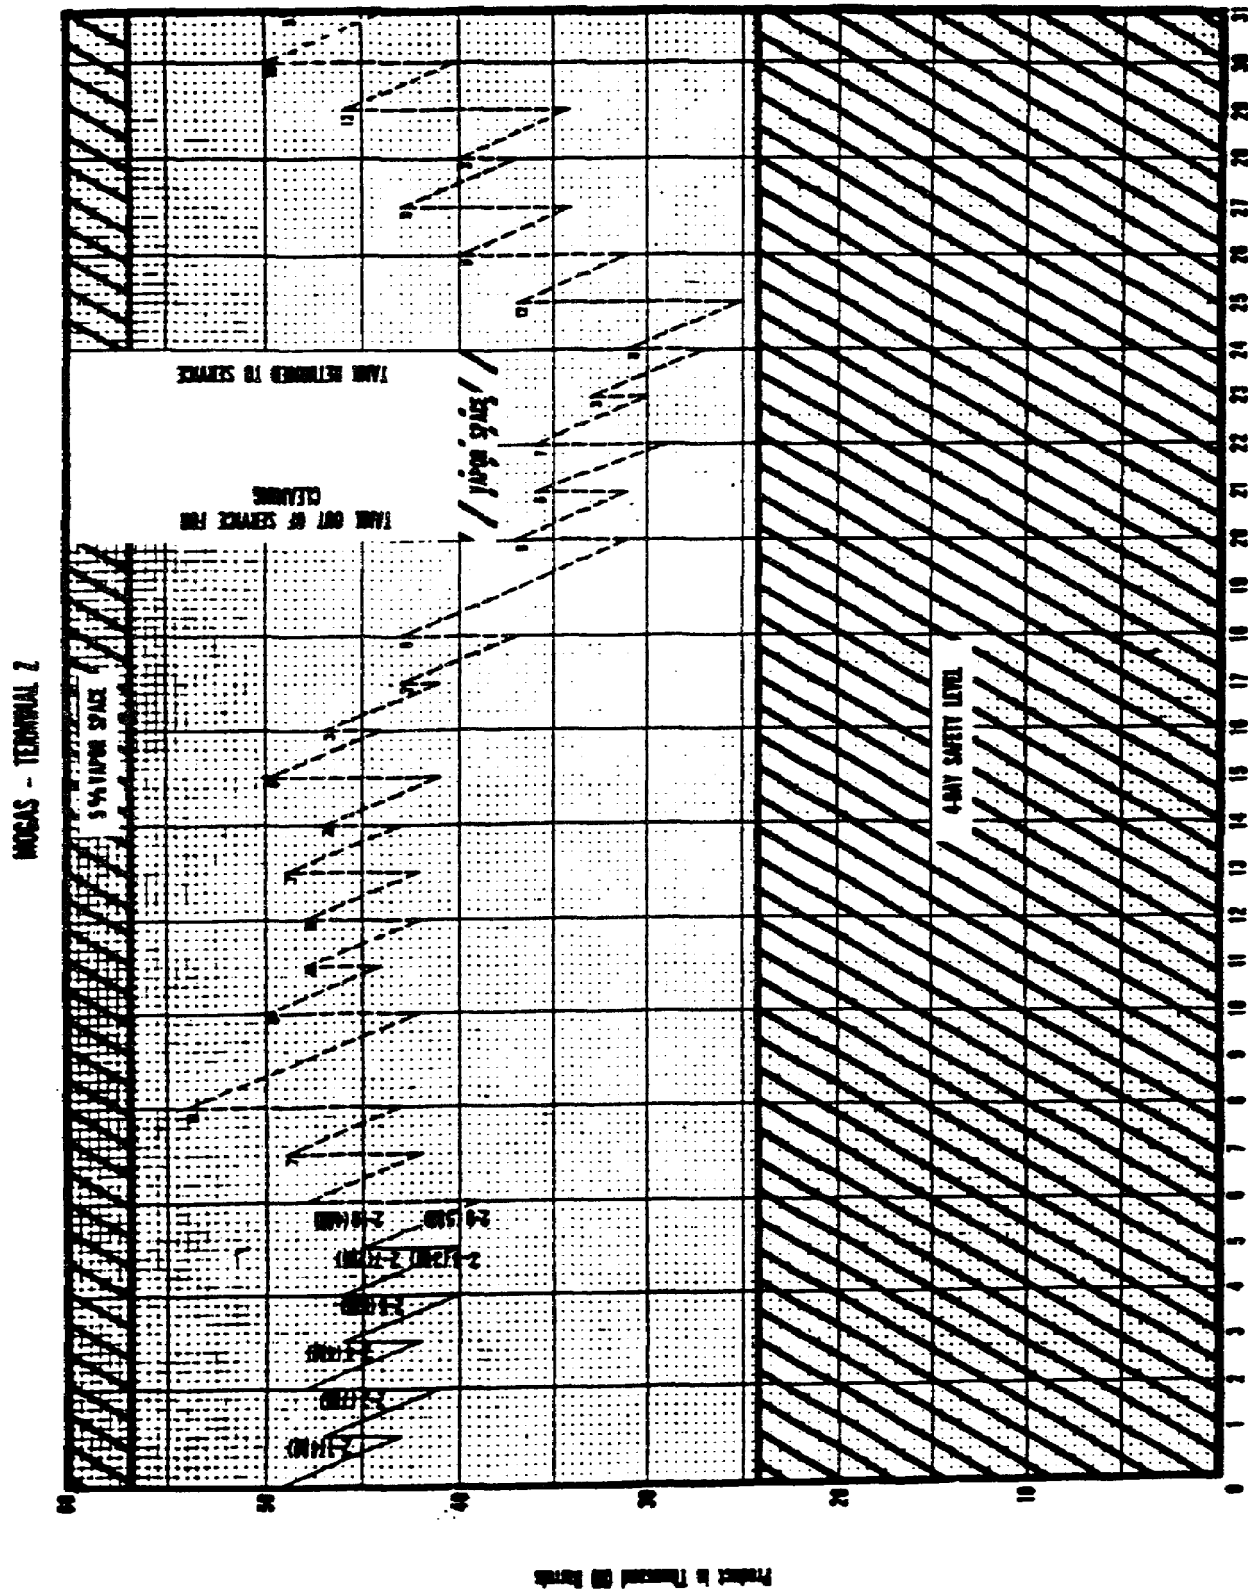

Figure 1. Consumption graph.
a. Purpose. A consumption graph (fig 1) provides you with required data needed to prepare your monthly and daily schedules. It also provides you with current quantities on hand and storage capacities. Consumption graphs should be maintained in the main distribution office for each product handled at each storage point, and each terminal should maintain similar graphs for large volume users. These graphs are available for visualizing present and future stocks and storage positions and for revealing trends in consumption. Sudden increases or decreases in consumption are apparent immediately and scheduling adjustments can be made.
b. Preparation of a Consumption Graph. A consumption graph must be set up to show the total barrels of any given product for each terminal or storage location. A separate graph should not be prepared for each tank. Figure 1 is a consumption graph for motor gasoline during the month of October.
(1) Storage capacity for the product in thousands of barrels (vertical axis) is plotted against time in monthly intervals (horizontal axis). Days are figured from 0001 of one day to 0001 of the next. Figure 1 reflects a total capacity of 60,000 barrels (60M bbls).
(Normal daily consumption from NOTE, figure 1)
(5) Projected tank cleaning and repairs (reduced storage capacity) must be provided for; the reduced storage capacity is subtracted from the total capacity. In figure 1, a 20,000 barrel tank is shown scheduled for cleaning on 20 July. The total capacity of Terminal Z is reduced by 20M bbls. Notice also that the vapor space has been refigured. It is now 5 percent of 40M bbls, or 2M bbls.
(6) Differences in stock on hand from day to day indicate the rate of consumption. The average rate of consumption based on past experience must be projected to plan for future issues. The system must be replenished via pipeline, based on this projected consumption rate.
c. Batch Number. Figure 1 shows entries by each receipt such as 2-1 (4M), 2-2 (7M) and 2-4 (4M). These represent a batch number and the quantity of fuel in that batch. The batch number also identifies the type of product. A batch number must be assigned at the time each batch is put into the line. When product is put into a terminal, it loses its number; when it is taken out and moved farther up the line, it is assigned a new batch number. A batch number is made up of two parts, the product code number, and the numerical value of that batch. An example of such a number is 2-4.
(1) Product code. The first part of the number identifies the product (fuel). The suggested codes for the most common products are: